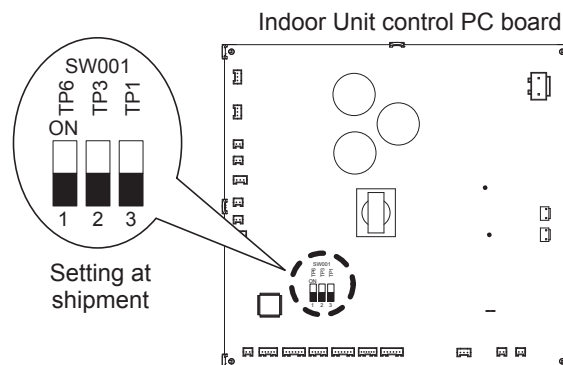

Fig. 1-12-2-1-3
(1) Refer to Tables 1-12-2-1-3, 1-12-2-1-4 and Fig. 1-12-2-1-4 for details on the relationship between the value of item code “5d” and the external static pressure.
(2) When set in group control (connecting multiple indoor units with one timer remote controller), set each indoor unit to item code “5d”.
Refer to Fig. 1-12-2-1-4 for the external static pressure setting range.
2. Open the lid of the electrical component box and confirm the location where the Select switch on the indoor unit control PCB is placed. (Fig. 1-12-2-1-3)
4. Press the / buttons for the time to amend the values for the set data. Refer to Table 1-12-2-1-3 and Fig. 1-12-2-1-4 and select a value “ **0006** ”, “ **0003** ” or “ **0001** ”.